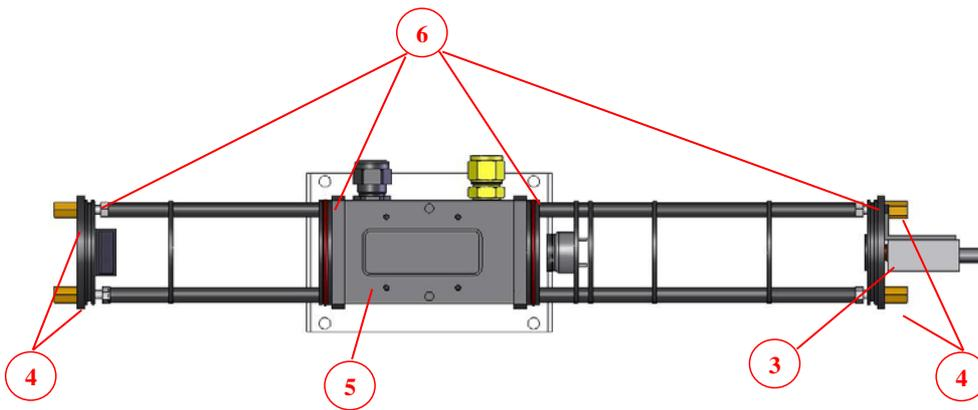

Figure 40 – Aurora 1000 O-ring locations
2. Turn the two white handles so that they are not holding the central filter in place (see Figure 40).